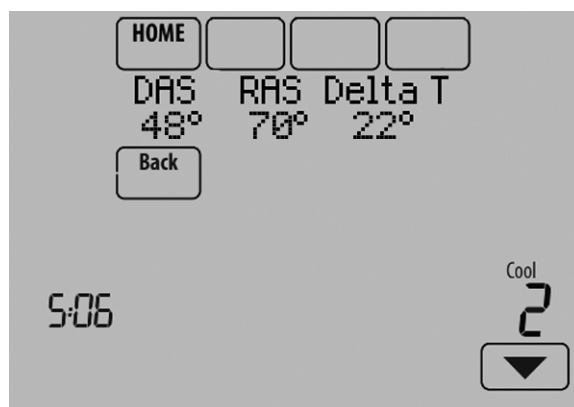

Fig. 68.
2. Run Time, Discharge, Return and Delta T data are displayed for heating and cooling tests (requires Discharge and Return Air Sensors). See Fig. 68. The Discharge, Return and Delta T are updated every 30 seconds during the test. The Run Time counter starts over when the next stage is turned on.